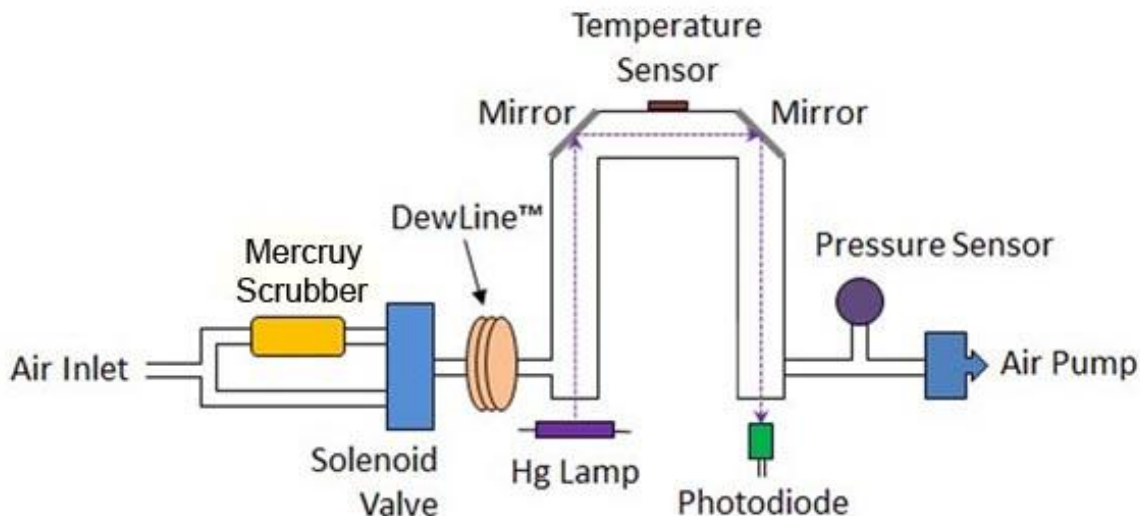

Figure 1.1. Schematic Diagram of the Personal Mercury Monitor.
Figure 1.1 is a schematic diagram of the HERMES Personal Mercury Monitor. Mercury is measured based on the attenuation of light passing through a 15-cm absorption cell fitted with quartz windows. The 15-cm cell length is accomplished by using a "U" shaped cell with mirrors in the corners to transmit light from the lamp at one end to the absorption cell to the detector at the other. A low-pressure mercury lamp is located on one side of the absorption cell, and a photodiode is located on the opposite side of the absorption cell. The photodiode has a built-in interference filter centered on 254 nm, the principal wavelength of light emitted by the mercury lamp. An air pump draws sample air into the instrument at a flow rate of approximately 0.75 L/min. A solenoid valve switches every 2 seconds so as to alternately send this air directly into the absorption cell or through a mercury scrubber and then into the absorption cell. The intensity of light at the photodiode is measured in air that has passed through the mercury scrubber (I_o) and air that has not passed through the scrubber (I).
where MW_{Hg} is the atomic weight of mercury (200.59 g mol^{-1}). Shown on Fig. 1.1 is the DewLine™, which serves to make the humidity entering the detection cell identical during I and I_o measurements. Please see the 2B Technologies website for a technical discussion of the DewLine™ and its importance to ozone measurements: <https://2btech.io/dewline/>. The same principle applies to measurements of mercury.